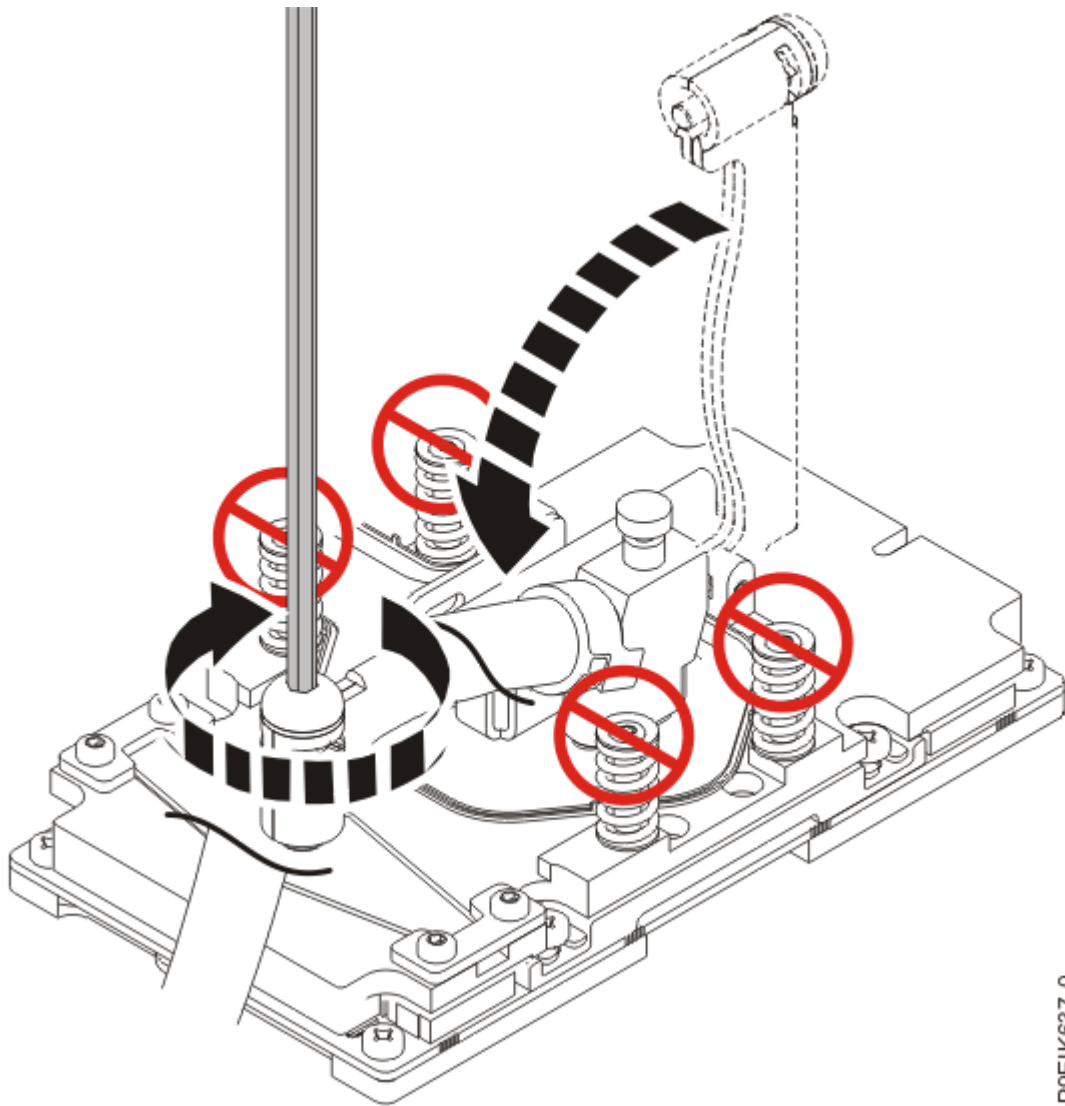

Figure 92. Secure the cold plate retainer screw
- b) Beginning with the middle GPU, swing the retainer over the GPU and code plate, then tighten the cold plate retainer screw as shown in Figure 92 on page 101. Repeat this step for each of the remaining GPUs.